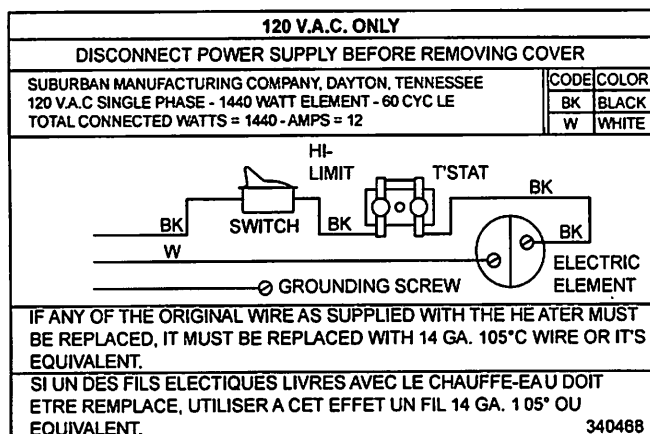

Figure 6
(See Figure 6)
D. Check rating plate and wiring diagram (Figure 6) before proceeding. Install a fused safety switch or circuit breaker of adequate capacity between heater and electrical power source. Attach the black and white wires from the fused switch or breaker to corresponding colored wires in heater junction box. A green wire from a well grounded source must be attached to the green nut in the junction box.